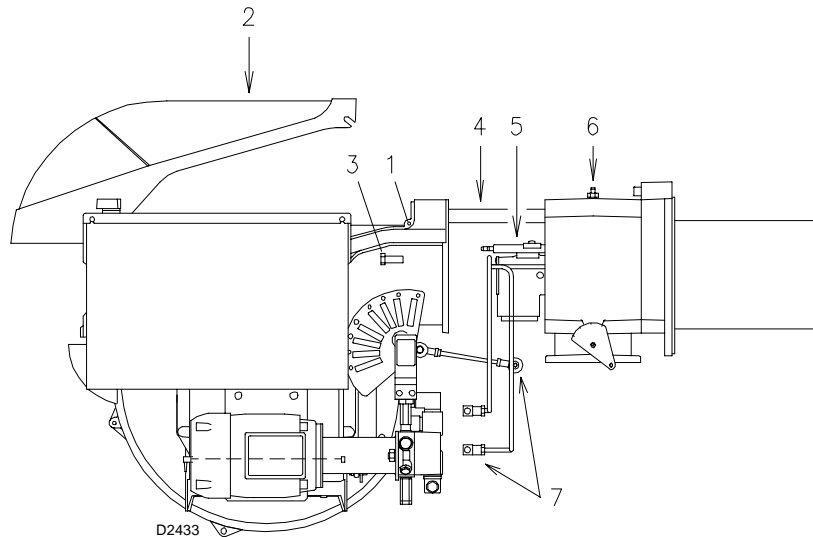

Fig. 45
Open the burner and make sure that all components of the combustion head are in good condition, not deformed by the high temperatures, free of impurities from the surroundings and correctly positioned. If in doubt, disassemble the elbow fitting 7)(Fig. 45, page 34).
- Loosen screws 1) and withdraw the cover 2)(Fig. 45)
- push the burner until it is about 4" from the sleeve (Fig. 45).